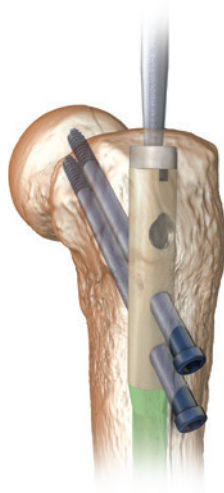

Figure 39
3. Screw the nail cap into the top of the nail until tight (Figure 39).